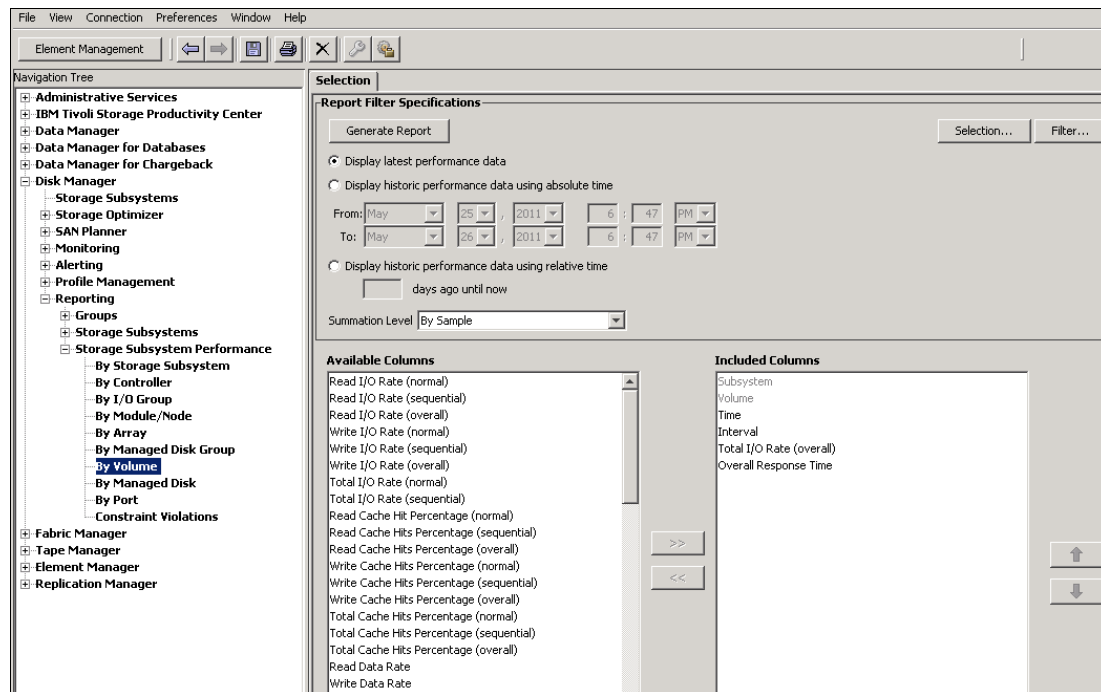

Figure 13-122 Metrics for tailored reports of top volumes
1. Click **Disk Manager** **Reporting** **Storage Subsystem Performance**, and select **By Volume**, as shown in the left pane in Figure 13-122.
2. In the Selection tab (as shown in the right pane in Figure 13-122), keep only the wanted metrics in the Included Columns box and move all other metrics (by using the arrow buttons) to the Available Columns box.